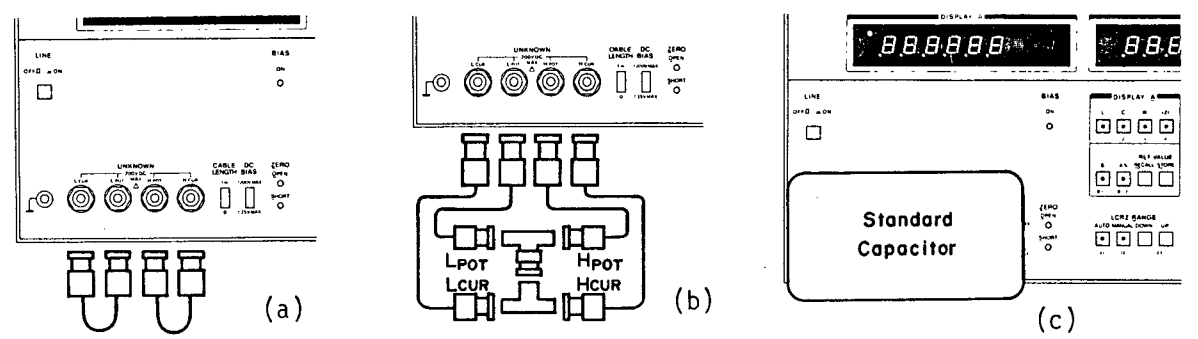

Figure 4-4. Capacitance Accuracy Test Setups.
2. Connect  $L_{CUR}$  and  $L_{POT}$  terminals with a BNC to BNC cable as shown in Figure 4-4 (a). Similarly connect  $H_{CUR}$  and  $H_{POT}$  terminals.
5. Connect cables and terminal adapters as shown in Figure 4-4 (b). Connect BNC tee adapters to each other.
7. Disconnect cables and connect 1pF Standard Capacitor direct to UNKNOWN terminals as shown in Figure 4-4 (c).